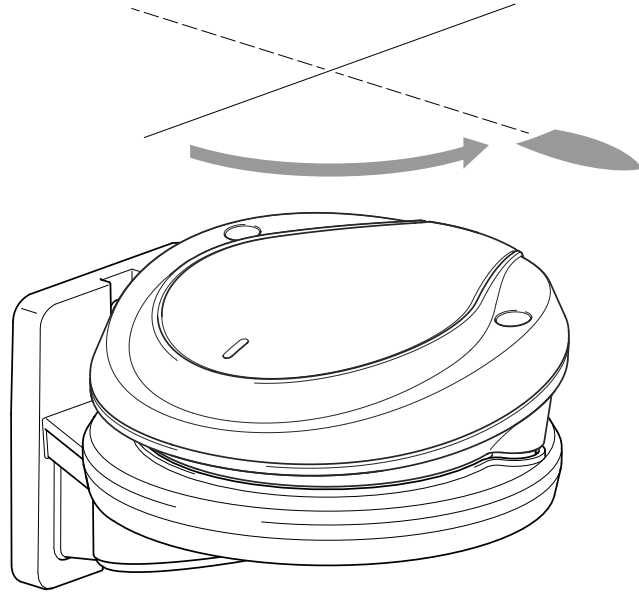
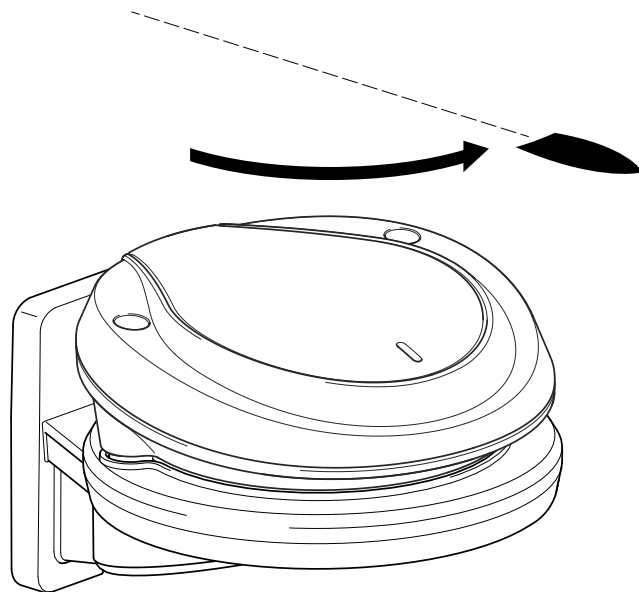

Figure 2-12.
Figure 2-13.
2. Mechanically adjust compass orientation to be parallel to boat's center line as shown in figure 2-12 and figure 2-13.